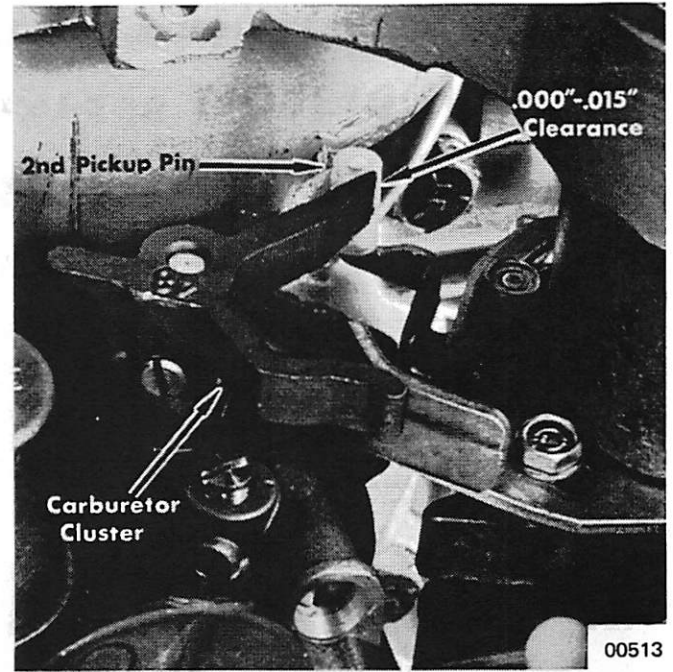

Figure 8. Second Throttle Pickup Tab Adjustment
- 16) Bend second throttle pickup pin (with nylon sleeve) against carburetor cluster (.000" to .015" [.381mm] gap). (Figure 8)